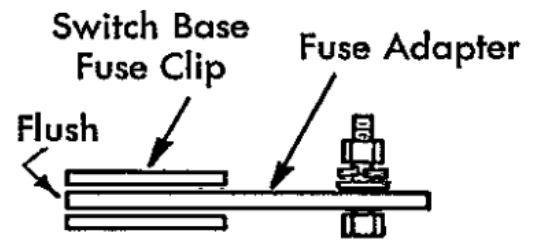

Figure 4.
4. Plug fuse adapter into fuse clip, making sure that end of adapter is flush with end of fuse clip and the bolt on the adapter is facing in the same direction as the bolts on the load block, Figure 4. Position clamp over fuse clip and tighten screws.